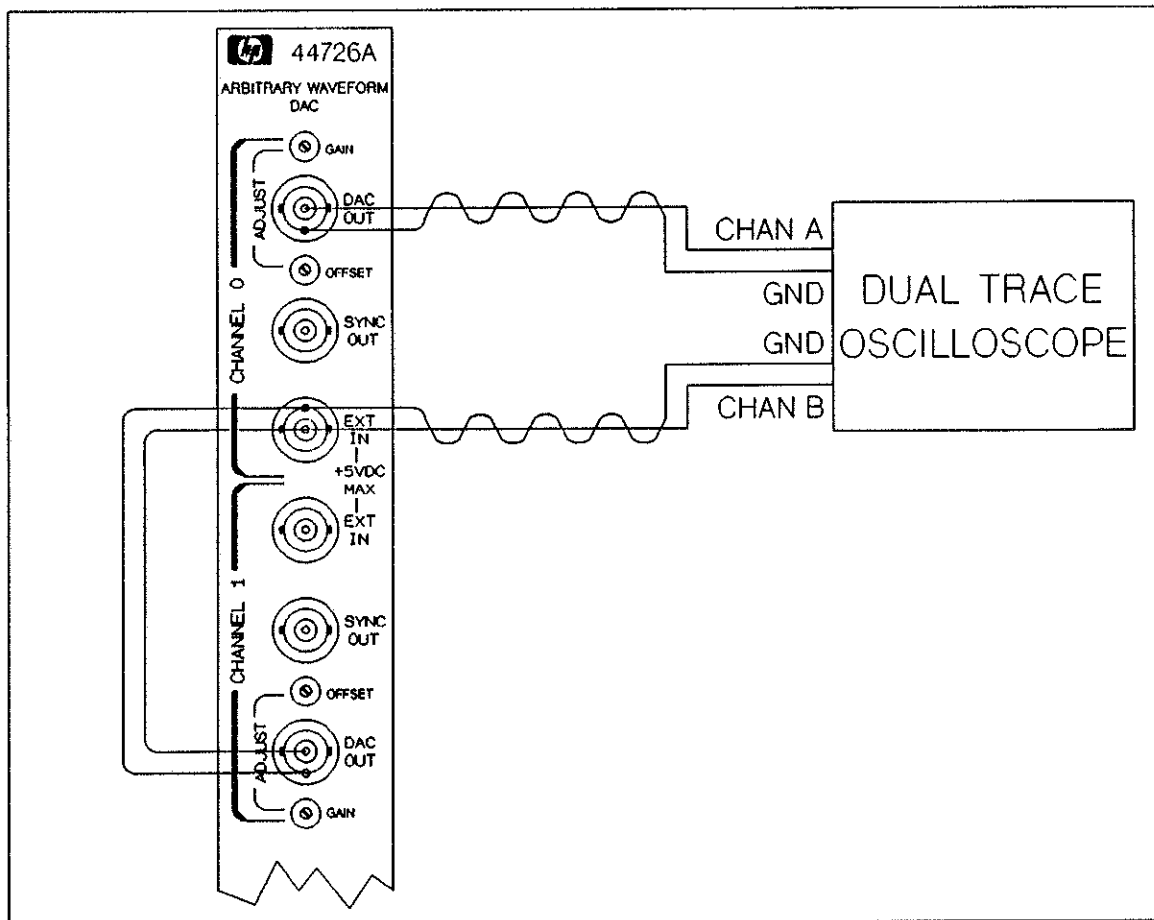

Figure 21-7 Channel 0 Trig Input Test Setup
14. Refer to Figure 21-7. Connect channel A of the oscilloscope to the accessory's DAC OUT connector on channel 0. Connect channel B of the oscilloscope to the accessory's EXT IN connector on channel 0. Also connect the accessory's DAC OUT connector on channel 1 to the EXT IN connector on channel 0.